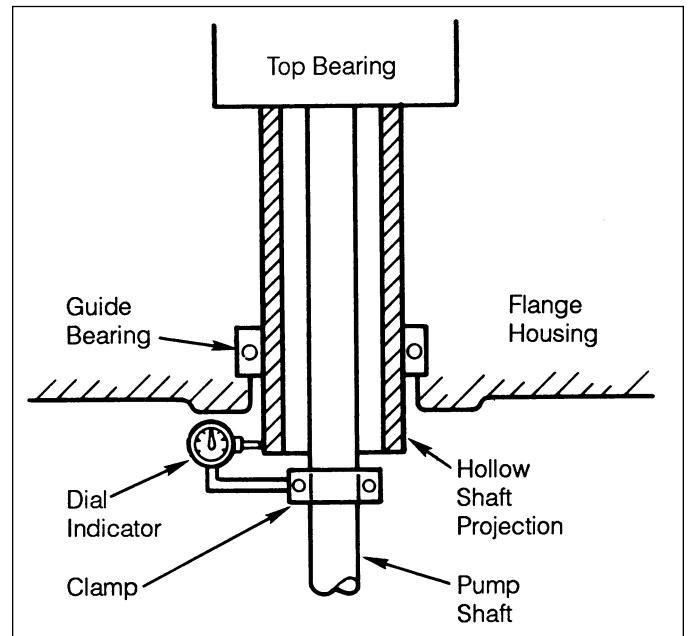

Figure 3 - Hollow Shaft Alignment
1. Clamp dial indicator to pump shaft, align with base-bolt plane and set dial indicator to zero (Figure 3).